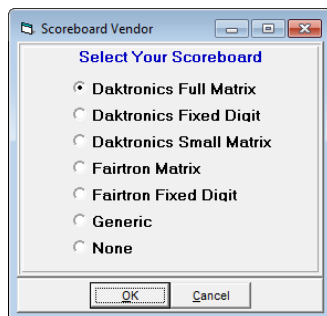

Figure 15: Scoreboard Vendor Selection
3. Go to **Interface > Setup > Scoreboard** (Figure 15).